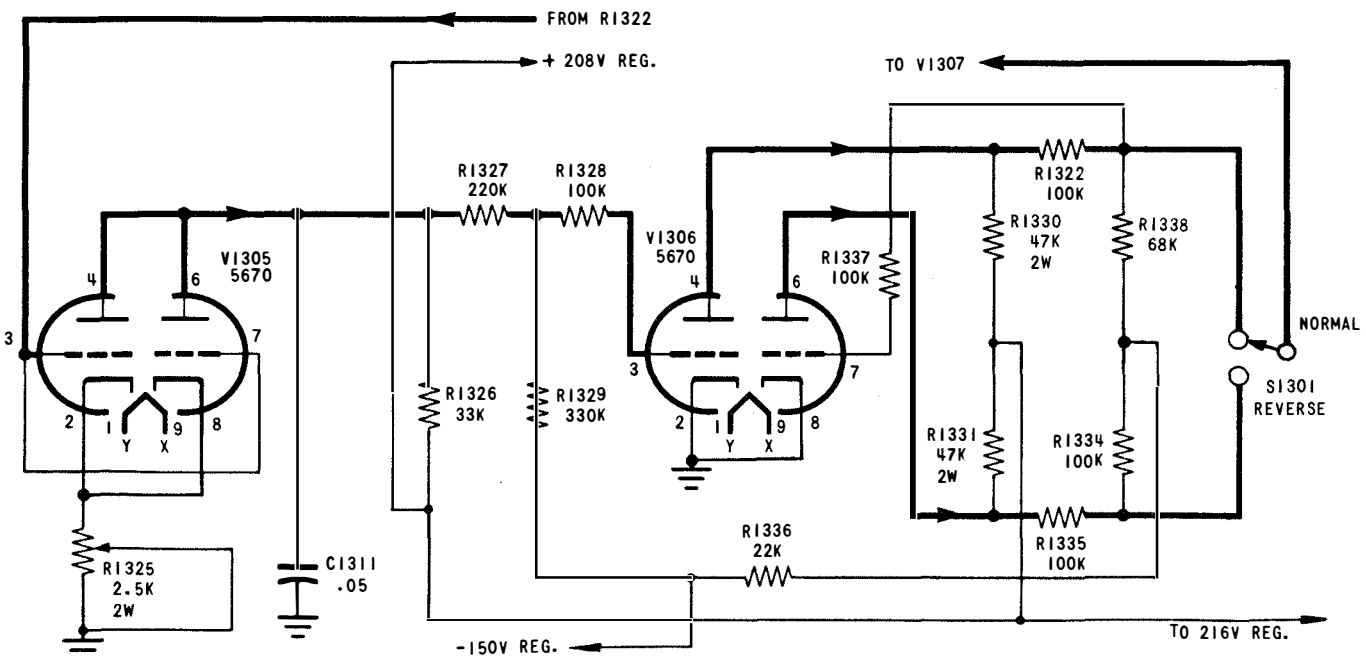

Figure 2-12. Schematic Diagram of DC Amplifier and Inverter Circuits
e. DC AMPLIFIER AND INVERTER CIRCUITS. - (See figure 2-12.) The DC amplifier and inverter circuit amplifies the output of the discriminator and squares the wave shape to push-pull form. This square wave output is used to drive the keying tubes. As shown by figure 2-12 the output of the discriminator circuit is applied to the grid of the 5670 type tube V1305. This stage has a 100 ohm resistor R1322 in the grid circuit to suppress radio frequency oscillation and a 33,000 ohm resistor R1326 for the plate load. The 2500 ohm potentiometer R1325 provides self-bias for V1305 and is adjusted for average loop current with the grid of V1305 disconnected from the discriminator circuit. The grid is disconnected from the discriminator circuit by placing the DIVERSITY switch in position 1. The 0.05 mf capacitor C1311, is used to filter carrier signal ripple present in the discriminator circuit output. The 220,000 ohm resistor R1327 and the 330,000 ohm resistor R1329 form a voltage divider network. To place the potential of the 100,000 ohm grid limiting resistor R1328 within the operating range of the pin 3 grid of the 5670 type tube V1306, a regulated -150 volt supply is connected to R1329. The 47,000 ohm resistors R1330 and R1331 are the plate load resistors for the two sections of V1306. The 100,000 ohm resistors R1332 and R1335 with the 100,000 ohm resistors R1334 and R1338 form a voltage divider. The 22,000 ohm resistor R1336 is a voltage dropping resistor. Push-pull operation is obtained by applying signal from the plate of one section of tube V1306 to the grid of the other section by means of the grid limiting resistor R1337. The push-pull output of the inverter circuit can be reversed with the NORMAL-REVERSE switch S1301.